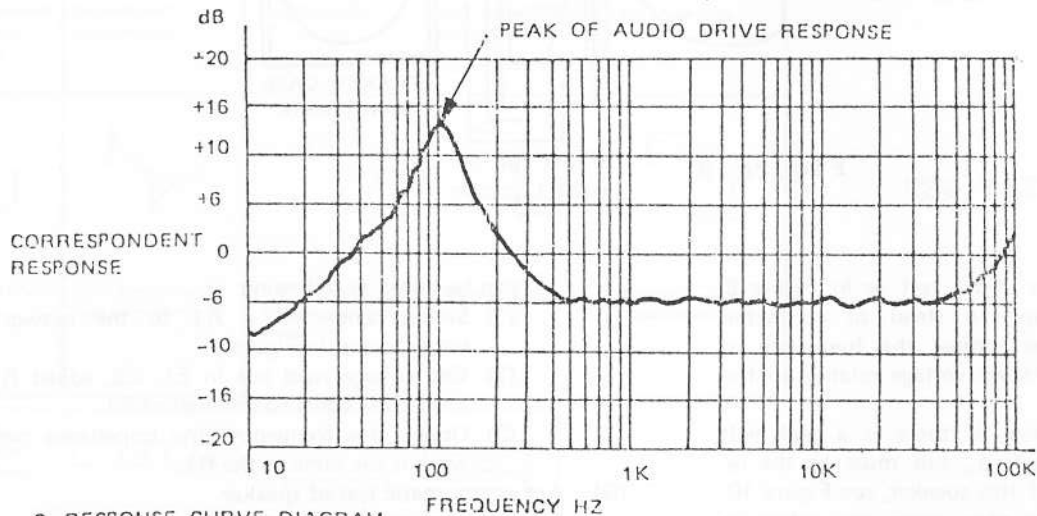

Figure 10
- (c) When testing speaker, if there is a peak volt value, when in low-freq., this must be the resonant freq. (f_0) of this speaker, see Figure 10. Whether installation may cause any effect to this frequency or not? The proper design of case-installation will cause two small ramp on both sides of this sharp ramp.